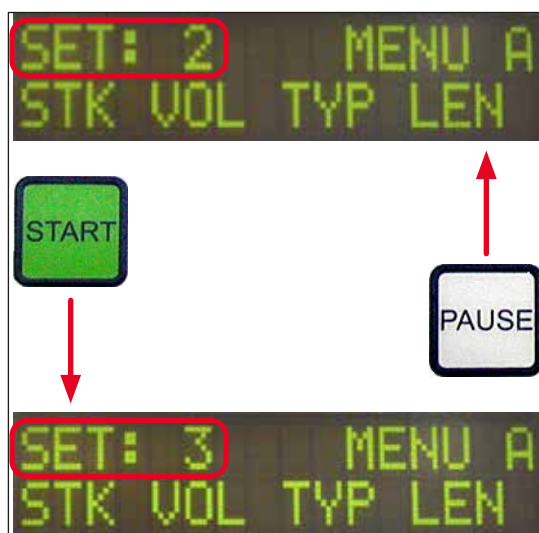

Fig. 39
① There are a total of four programs (SET 1 to SET 4) that can be stored in the instrument with different parameter settings.
- Pressing the **PAUSE** button calls up the next lower program (→ Fig. 39).